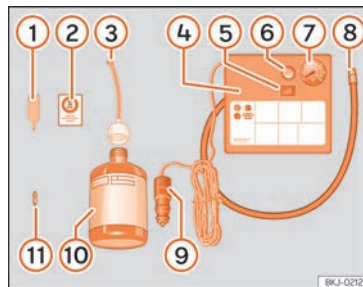

Fig. 201 Standard display: contents of the anti-puncture kit.
The anti-puncture kit is located underneath the floor covering in the luggage compartment. Includes the following components >>> **Fig. 201:**
- Unscrew the tyre valve cap and insert. Use the device >>> Fig. 201 ① to remove the valve cap. Place it on a clean surface.
- Shake the tyre sealant bottle vigorously >>> Fig. 201 ⑩.
- Screw the tyre inflation hose >>> Fig. 201 ③ into the tyre sealant bottle. The bottle's seal will break automatically.
- Remove the filler cap >>> Fig. 201 ③ and screw the open end of the tube into the tyre valve.
- Replace the howitzer with the device >>> Fig. 201 ① onto the tyre valve.
- Screw the tyre inflation tube of the compressor >>> Fig. 201 ⑧ on the tyre valve.
- Check that the air evacuation screw is closed >>> Fig. 201 ⑥.
- Attach the connector >>> Fig. 201 ⑨ to the vehicle's 12 volt power outlet >>> page 179.
- Switch on the air compressor with ON/OFF switch >>> Fig. 201 ⑤.
- Attach the sticker >>> Fig. 201 ② to the instrument panel display, within the driver's field of vision.
Screw in the inflator tube >>> Fig. 201 (8) again and check the pressure on the gauge (7).